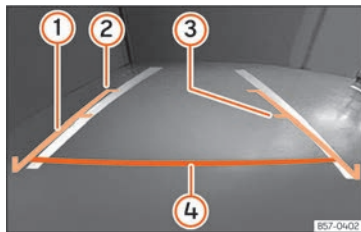

Fig. 212 Display on the Infotainment system screen.: guide lines.
- Vehicle load modifies the representation of the guide lines »» Fig. 212. The width represented by the lines decreases with vehicle load. Pay special attention to the surroundings when the inside of the vehicle of the luggage compartment are loaded.
Meaning of the orientation lines »»» Fig. 212